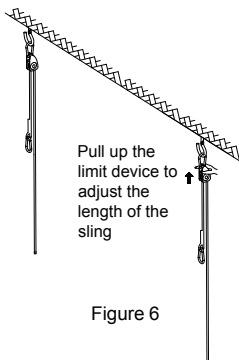

Figure 6
- 6: Hang the 1/8" lifting pulley sling hook on the fixed hook and adjust it to a suitable height through the lifting device?. (Figure 6)